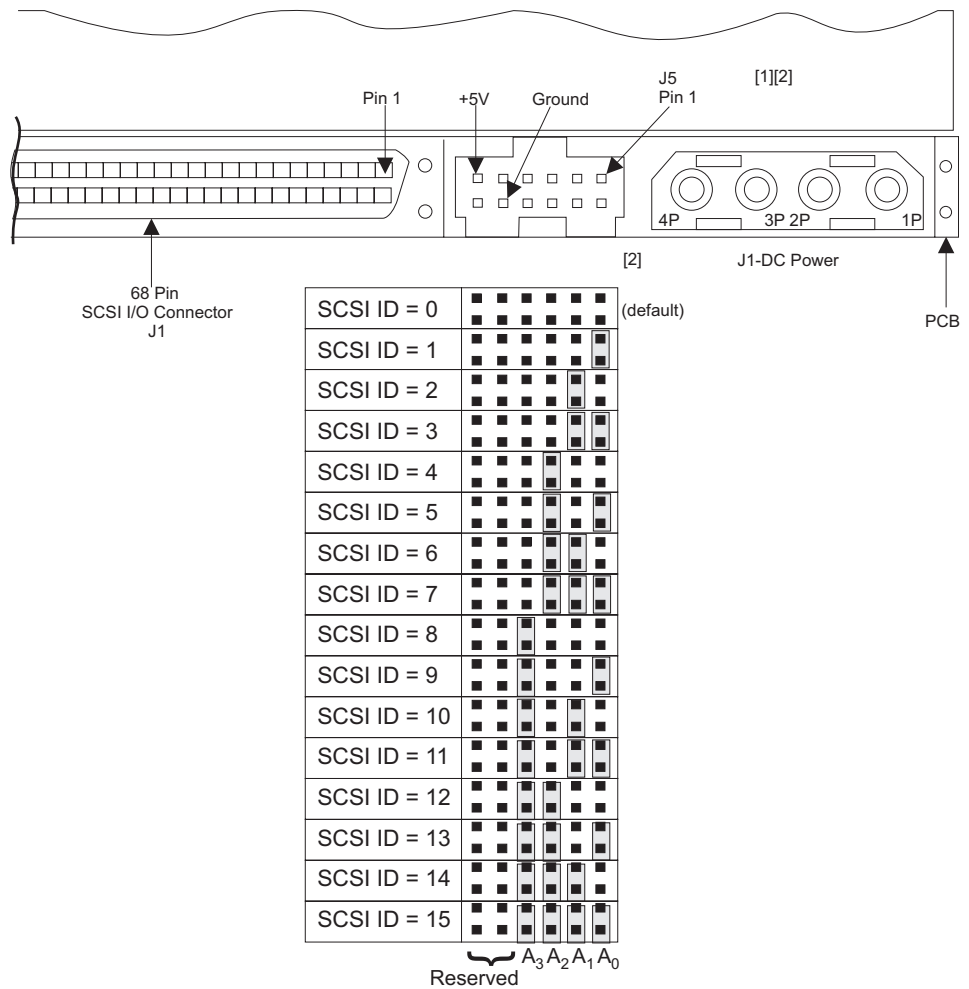

Figure 91. SAN Volume Controller 2145-4F2 disk drive jumpers
1. Check whether the old disk drive has any jumpers installed. If it does, install matching jumpers onto the new disk drive. Figure 91 on page 111 shows the location of the jumpers.